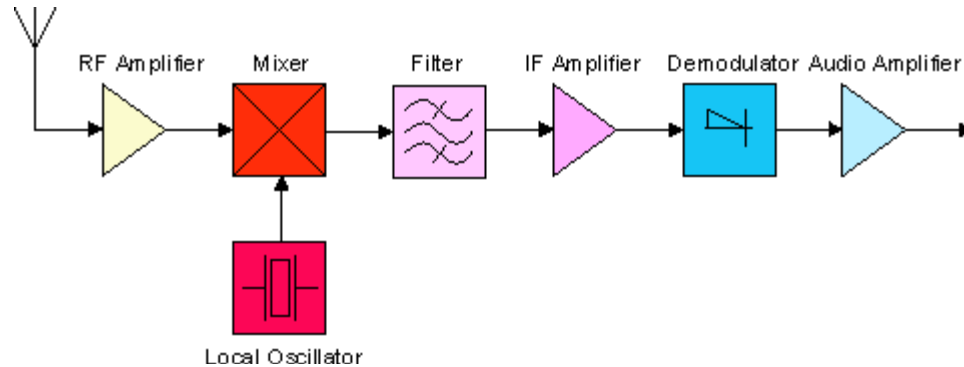

Figure 1: Superheterodyne Receiver
Fig.1. shows the minimum requirements for a single-conversion superheterodyne receiver design. The following essential elements are common to all superhet circuits: a receiving antenna, a tuned stage which may optionally contain amplification (RF amplifier), a variable frequency local oscillator, a frequency mixer, a band pass filter and intermediate frequency (IF) amplifier, and a demodulator plus additional circuitry to amplify or process the original audio signal (or other transmitted information). To receive a radio signal, a suitable antenna is required. This is often built into a receiver; especially in the case of AM broadcast band radios. The output of the antenna may be very small, often only a few microvolts. The signal from the antenna is tuned and may be amplified in a so-called radio frequency (RF) amplifier, although this stage is often omitted. One or more tuned circuits at this stage block frequencies which are far removed from the intended reception frequency. In order to tune the receiver to a